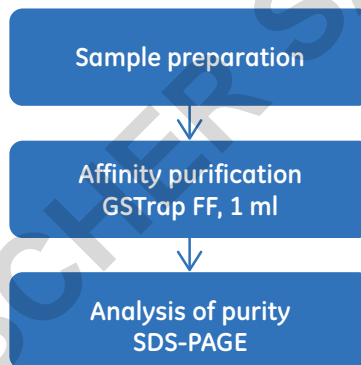
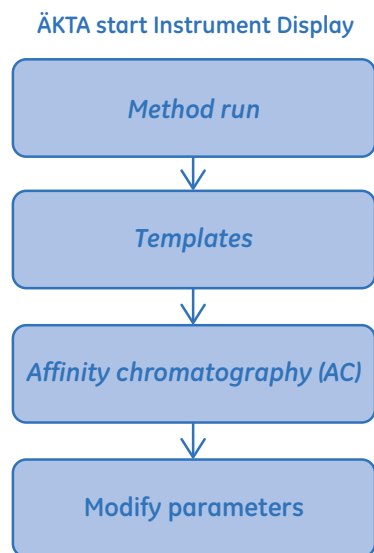

Fig 1. Workflow used for purification of target GST-tagged protein
Fig 2. Screen selection for modifying the affinity template in ÄKTA start (screen choices are italicized).
Erica developed the purification protocol from the affinity chromatography method template present in ÄKTA start and followed the workflow illustrated in Figure 1. She used the interactive touchscreen on the instrument to select the affinity template (Fig 2) and modified the run parameters to suit her needs (Table 1). She plugged in a USB memory stick to save the results. Erica prepared the sample by resuspending *E. coli* cells containing the GST-tagged protein in 10 mM sodium phosphate, 150 mM NaCl, pH 7.5. She equilibrated the column with 5 column volumes (CV) of binding buffer (10 mM sodium phosphate buffer, 150 mM NaCl, pH 7.5) and loaded 5 ml of sample onto a GSTrap FF 1 ml column. The ÄKTA start pump was used for sample loading at a flow rate of 0.5 ml/min to allow enough time for protein to bind to the media.